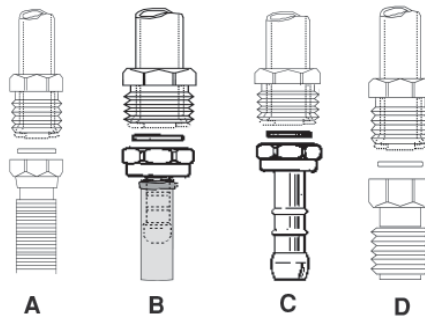

Figure 15
• CONNECTING WITH A METAL HOSE (A – FIG. 15)
• CONNECTING WITH A RUBBER HOSE (B AND C – FIG. 15)